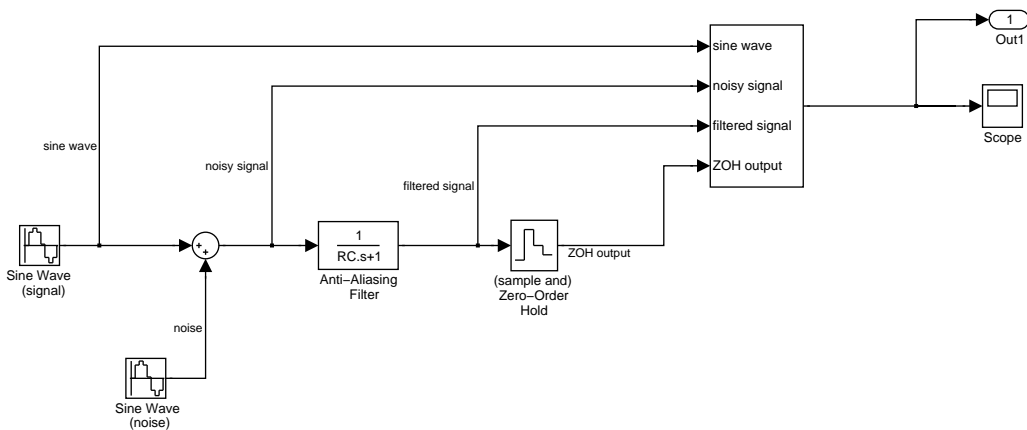

Figure 2: SIMULINK Model of Signal Reconstruction with Antialiasing Filter
- (d). Modify the SIMULINK model “noisy_signal.mdl” to create a new model, “filtered_signal.mdl”, shown in Figure 2, that includes a lowpass filter. The frequency response of this filter, together with the resulting reconstructed signal, may be plotted using the m-file “aliasing_w_filter.m”. What will the filtered signal look like after it is passed through a sample and hold? The lowpass filter in this figure can be adjusted by changing the parameter “ RC ”. Try various values of RC , say $RC = .001, .01, .1, 1, 10$. What trends do you see?